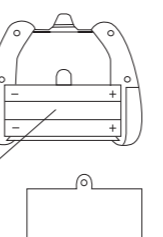

Fig. 2
- Using a Phillips screwdriver, unscrew the battery cover on the back of the remote control and insert 6 "AA" 1.5V alkaline batteries (not included) into the battery compartment (Fig. 2). Make sure to follow indicated polarities (Fig. 2). Replace the battery cover and screw in. Do NOT over tighten.